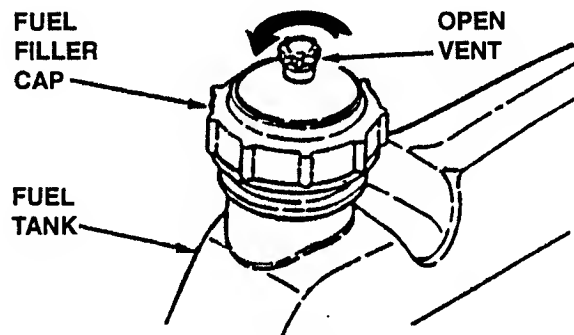

FIGURE 2.6
4. Open vent on fuel filler cap by turning counterclockwise. **IMPORTANT:** Failure to open vent on the fuel filler cap can cause engine to stall. See Figure 2.6.
4. Open vent on fuel filler cap by turning counterclockwise. **NOTE:** Failure to open vent on the fuel filler cap can cause engine to stall. See Figure 2.6.